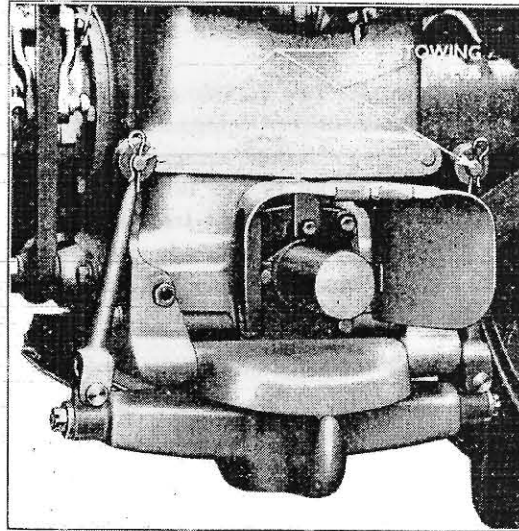

Fig. 4
Note—The brackets are “handed” and must be assembled with the hitch lift rod stowing pins facing away from the plunger locking device. (See Fig. 4.)
1. With the hook assembly locked to the housing assembly, i.e. fully raised position, remove the hitch lifting rod linch pins and disconnect the rods. Stow the rods on their appropriate pegs on the hitch housing bracket assemblies using the "hair pin" clips provided to retain them in position. (See Fig. 4.)